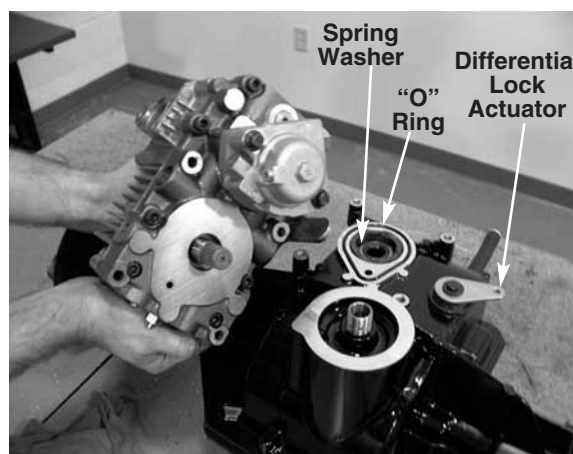

FIGURE 8.
14. Remove the "O" ring from between the hydro and differential. See figure 8.
15. Remove the spring washer from between the hydro and the differential. See figure 8.
16. Pull on the differential lock actuator using a fish scale and see if it locks in with less than 35 pounds of pull. See figure 8.